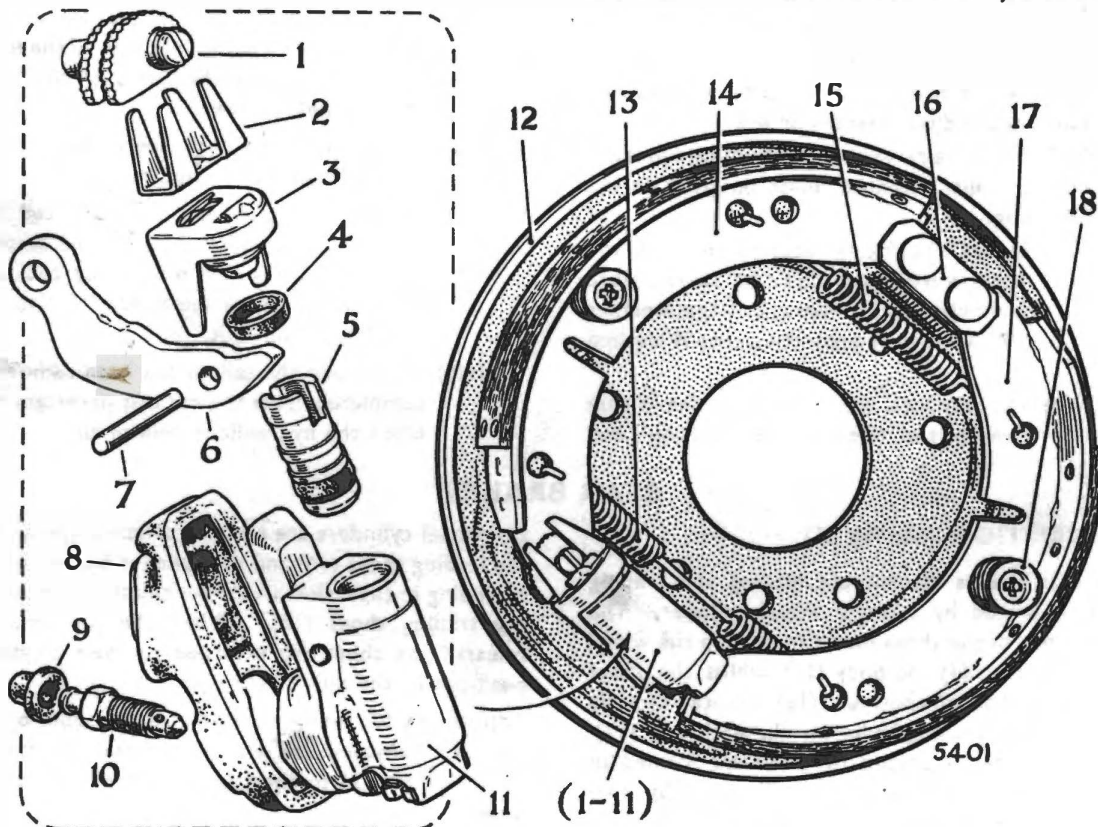

Fig. 16. Exploded view of rear brake—right-hand side illustrated
#### DESCRIPTION (See Fig. 16)
turning the "micram" adjuster anti-clockwise to the full extent using a screwdriver. (See Fig. 10). Remove the brake drum and distance piece, when fitted, from the axle flange by withdrawing a countersunk screw. A light blow on the side of the brake drum will loosen it and facilitate removal. Release the damper spring assemblies (item 18, Fig. 16) by depressing the cups and turning the pegs through ninety degrees. The pegs may be withdrawn from the rear of the backplate.
**To refit (See Fig. 16)**
**WHEEL CYLINDERS** (See Fig. 16)
**To dismantle** (See Fig. 16)
#### To reassemble (See Fig. 16)